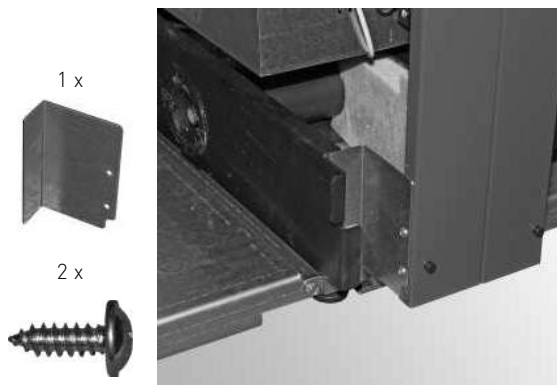

Fig. 42 Fit hand guard bracket with 2 self-tapping screws
- Fit hand guard bracket (part 22); fasten to vertical centre panel with 2 self-tapping screws – Fig. 42.